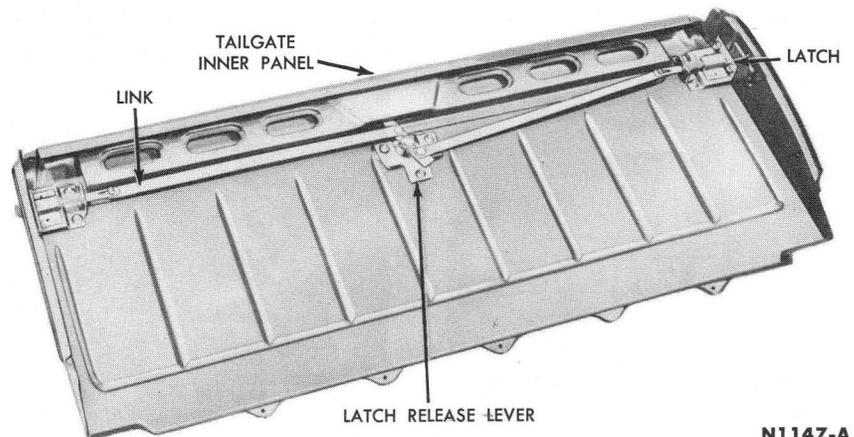

FIG. 19—Latch Release Lever Assembly
4. Remove the retaining screws from the right or left latch assembly, rotate the latch 90 degrees, and remove the latch (Fig. 19). If only the latch requires replacement, proceed to step 9.